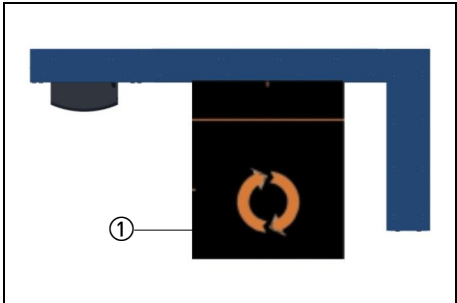

Fig. 15: Top view of the scanning area
- ▷ Direct the person to be scanned inside the scanning area. The optimum position for the person is marked by a symbol on the floor. Instruct the person to be scanned to raise their arms. Fig. 15 shows a top view of the eqo including the operational area ①.